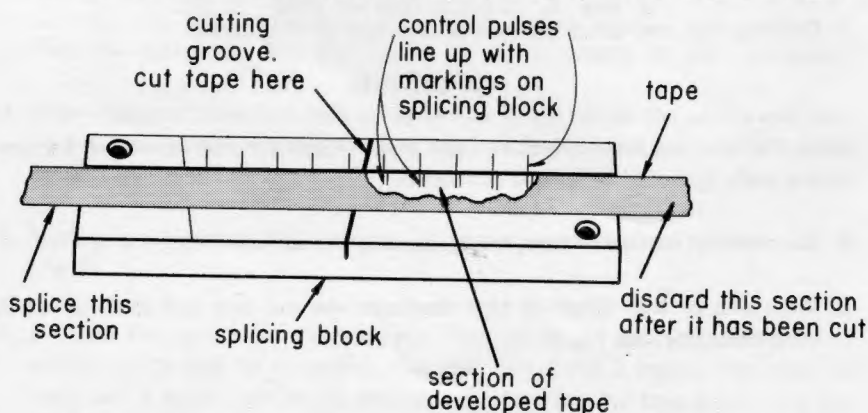

Fig. 6a. Cut the first section at the editing mark and discard developed section.
- Place the tape in the tape groove of the splicing block (oxide up) so that the editing mark is directly over the cutting groove and line up the control pulses on the tape with the markings on the splicing block, as shown in Fig. 6a.